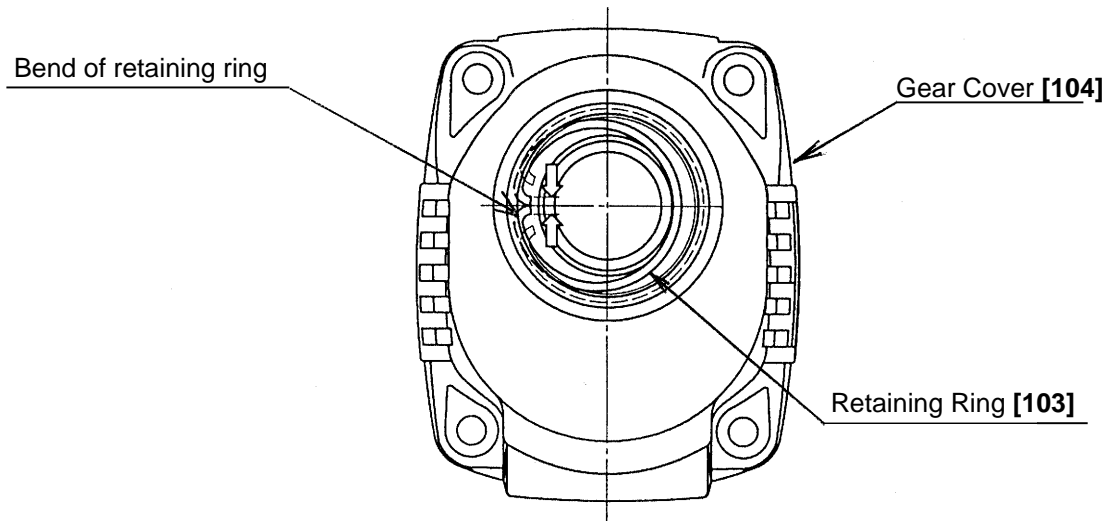

Fig. 17
- Extract the Retaining Ring for D37 Hole [17], turn the Gear Cover [104] so that its tip portion is upward, and extract the Ball Bearing 6904CM [16] from the gear cover with a hand press. Pinch the bend of the Retaining Ring [103] with a pair of long-nose pliers in the arrow direction as shown in Fig. 17. Catch the loosened Retaining Ring [103] with the spring hook H-75 [J-201] and pull it out.